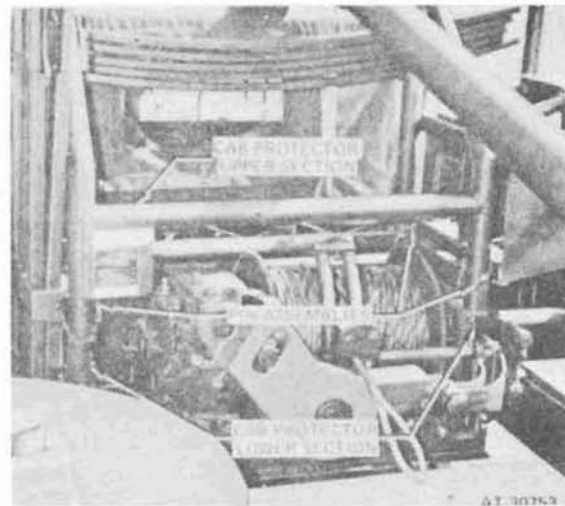

Figure 460. Cab protector disconnect points.
- (1) Raise the derrick from its support in cab protector. Remove body stave, bows, and wheel chocks from their stowed positions on protector.
- (2) Remove the pin assemblies attaching left and right-hand sides of cab protector upper section to the lower section of cab protector (fig. 460). Attach hoist chain to horizontal tubes of cab protector, and lift protector to remove from sockets in protector lower section.